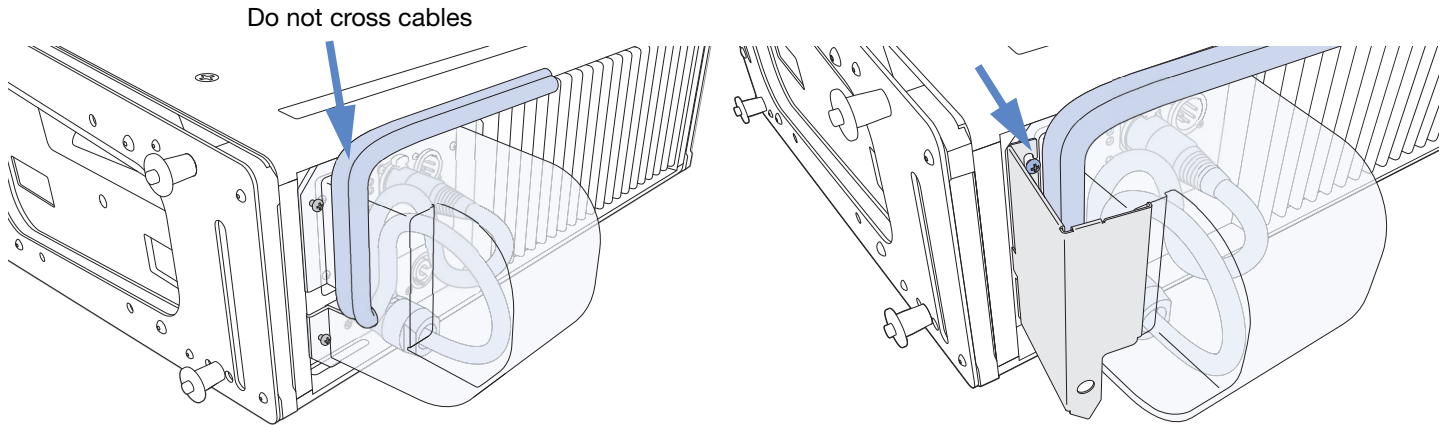

Figure 2: Routing Cables over Rain Hood (left) and Hooking Shield over Securing Screws (right)
5. Route the cables up and over the top of the rain hood between the shield and the rain hood. Do not cross the cables (see Figure 2, left).
6. Angle the shield and hook the slots in the L-shaped UW shield over both upper- and lower-left screws (when facing the rear of the loudspeaker, see Figure 2, right).